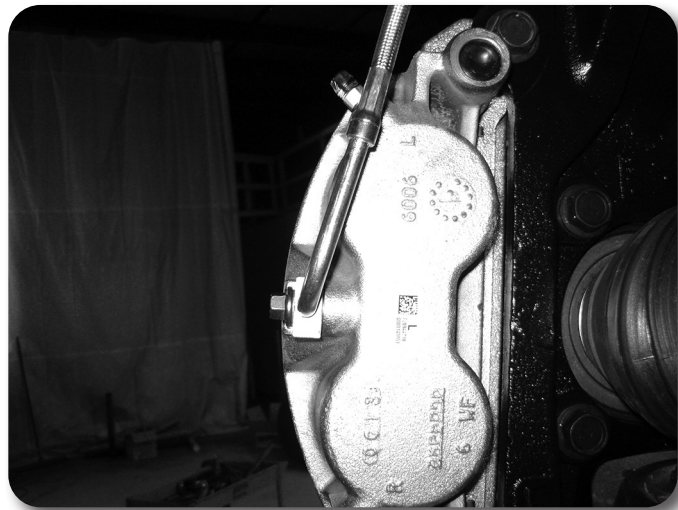

Figure 44
62. Locate the new provided stainless steel brake lines. The lines are driver's and passenger's side specific. The caliper end has a offset angle. When install the hard line at the caliper should point slightly inward toward the steering knuckle. Identify the appropriate lines. Figure 44 - Drv's Side Shown